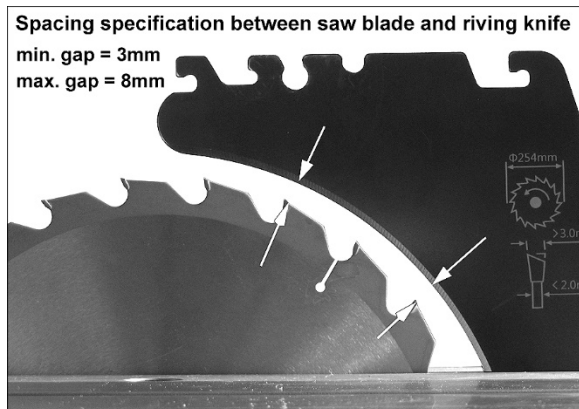

Figure 8-8
The gap between saw blade and riving knife must be between 3mm (0.12in.) and 8mm (0.32in.). See Figure 8-8.
4. Tighten screws (C).
5. Reinsert riving knife; engage lever (A) and check that saw blade/knife gap is between 3 to 8mm (Figure 8-8).